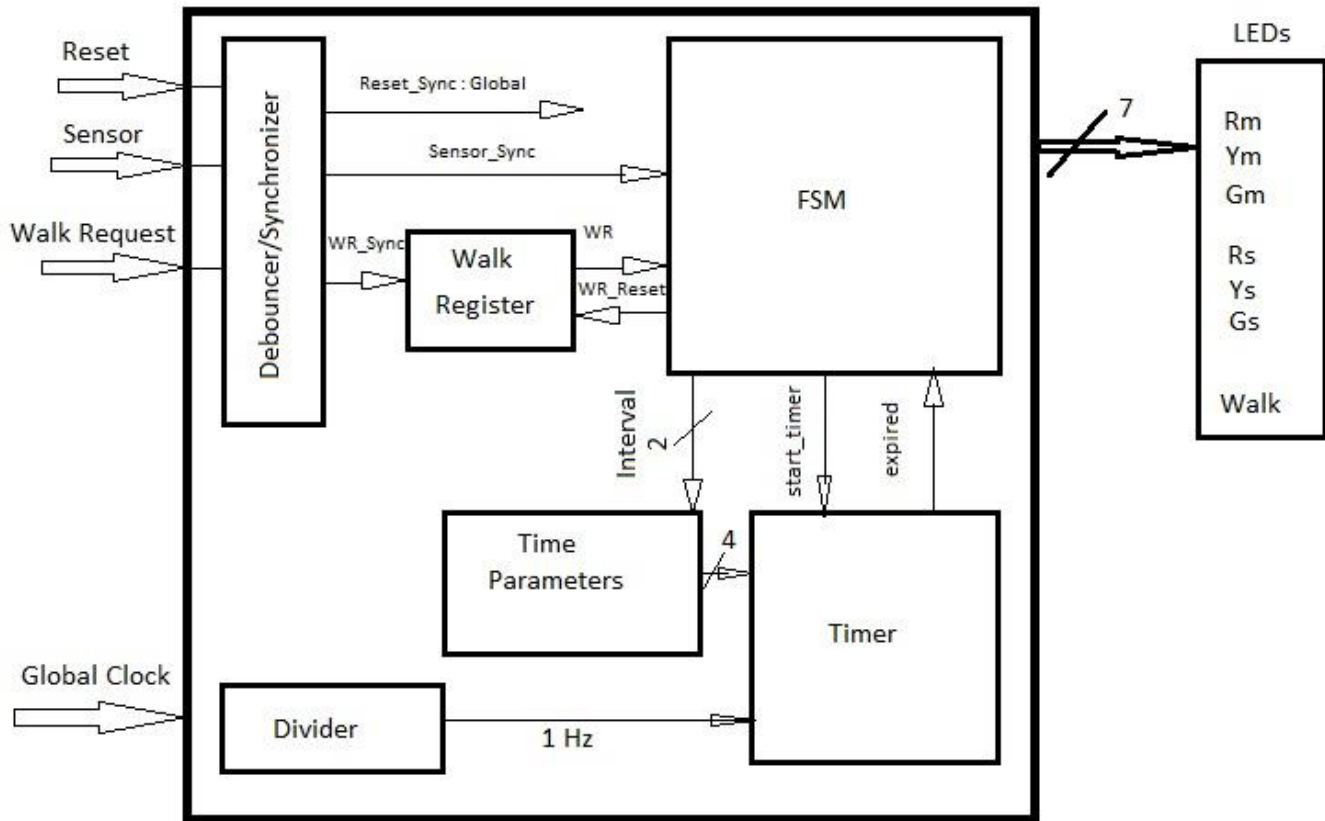

FIGURE 3 - BLOCK DIAGRAM OF TRAFFIC LIGHT CONTROLLER
2. Sketch your initial design for the FSM block in Figure 3 below.
You should implement this lab by programming each block individually and then instantiating and connecting the modules in your top level schematic module. Then you should compile your implementation using the Xilinx tools, download it to your kit’s FPGA, and demonstrate its operation by using the LEDs. **Use your board’s push buttons for the walk request and reset button and a switch for sensor input.** Dedicate one LED to your clock. A proposed high-level block diagram of the design is shown in Figure 3.